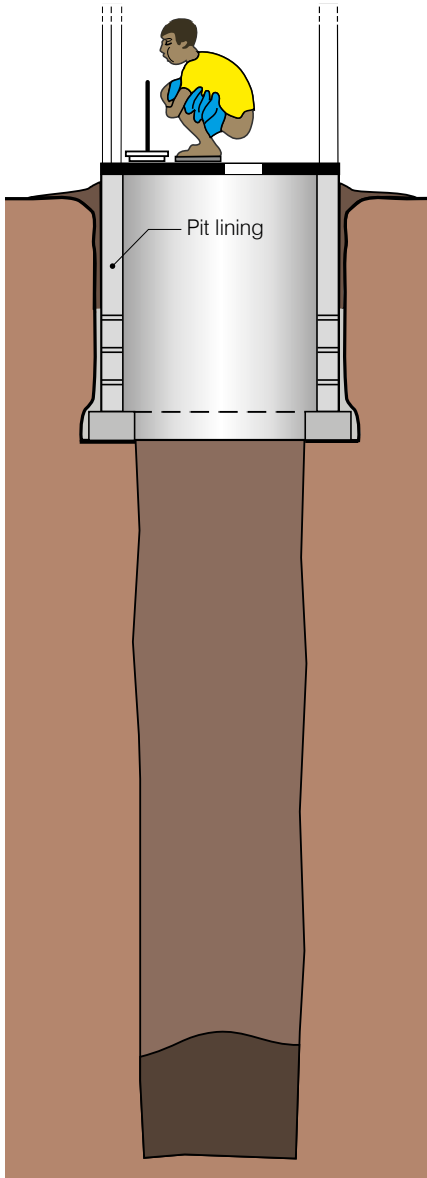

Figure 3. A deep pit with lining
- Excavate the rest of the pit within the lining (Figure 3). This section of the hole cannot be as wide as the inside of the lining as the bottom of the lining requires a foundation.